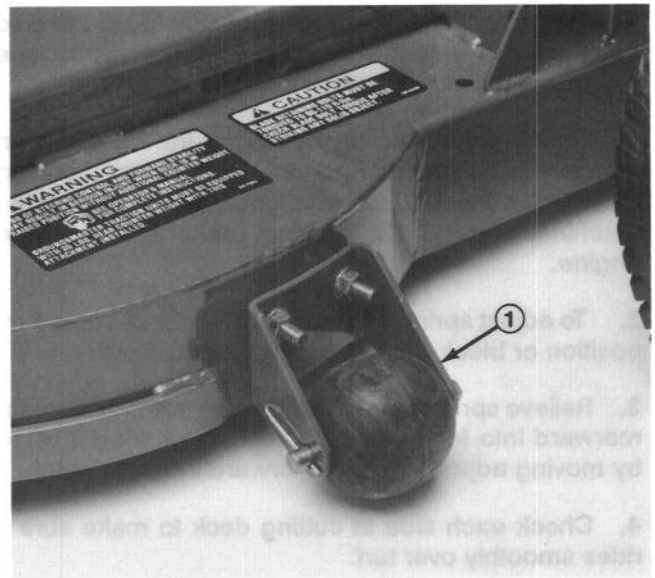

Figure 7
1. Remove capscrews and flange nuts securing roller bracket to deck (Fig. 7).